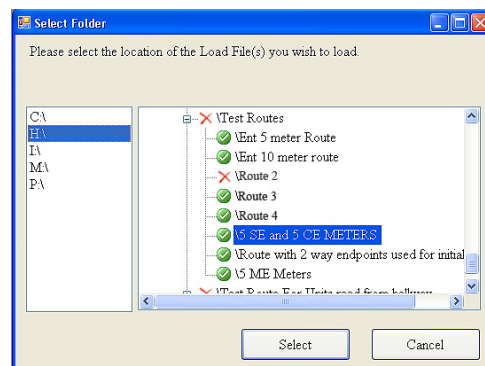

Figure 15: Select folder window
4. Click the drive letter for the memory stick. In Figure 15, the memory stick is using drive H.